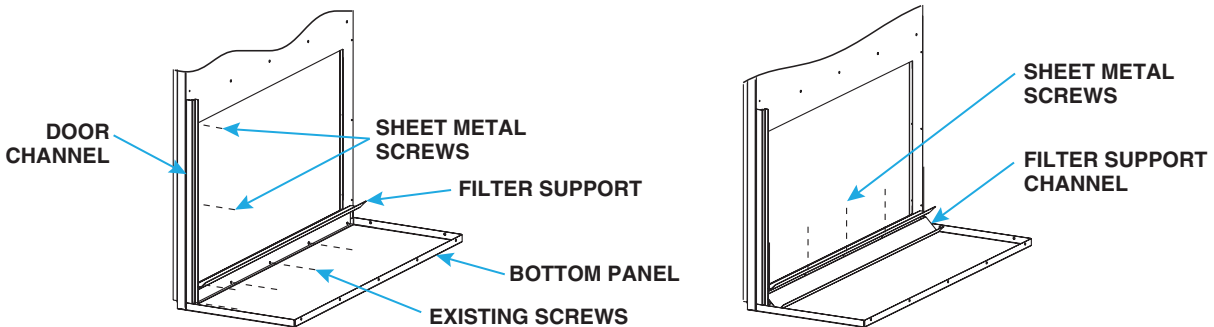

Figure 16. Install Door Channel, Bottom Panel, Filter Support, and Filter Support Channel
1. Install door channel, bottom panel, filter support, and filter support channel as shown in **Figure 16**: